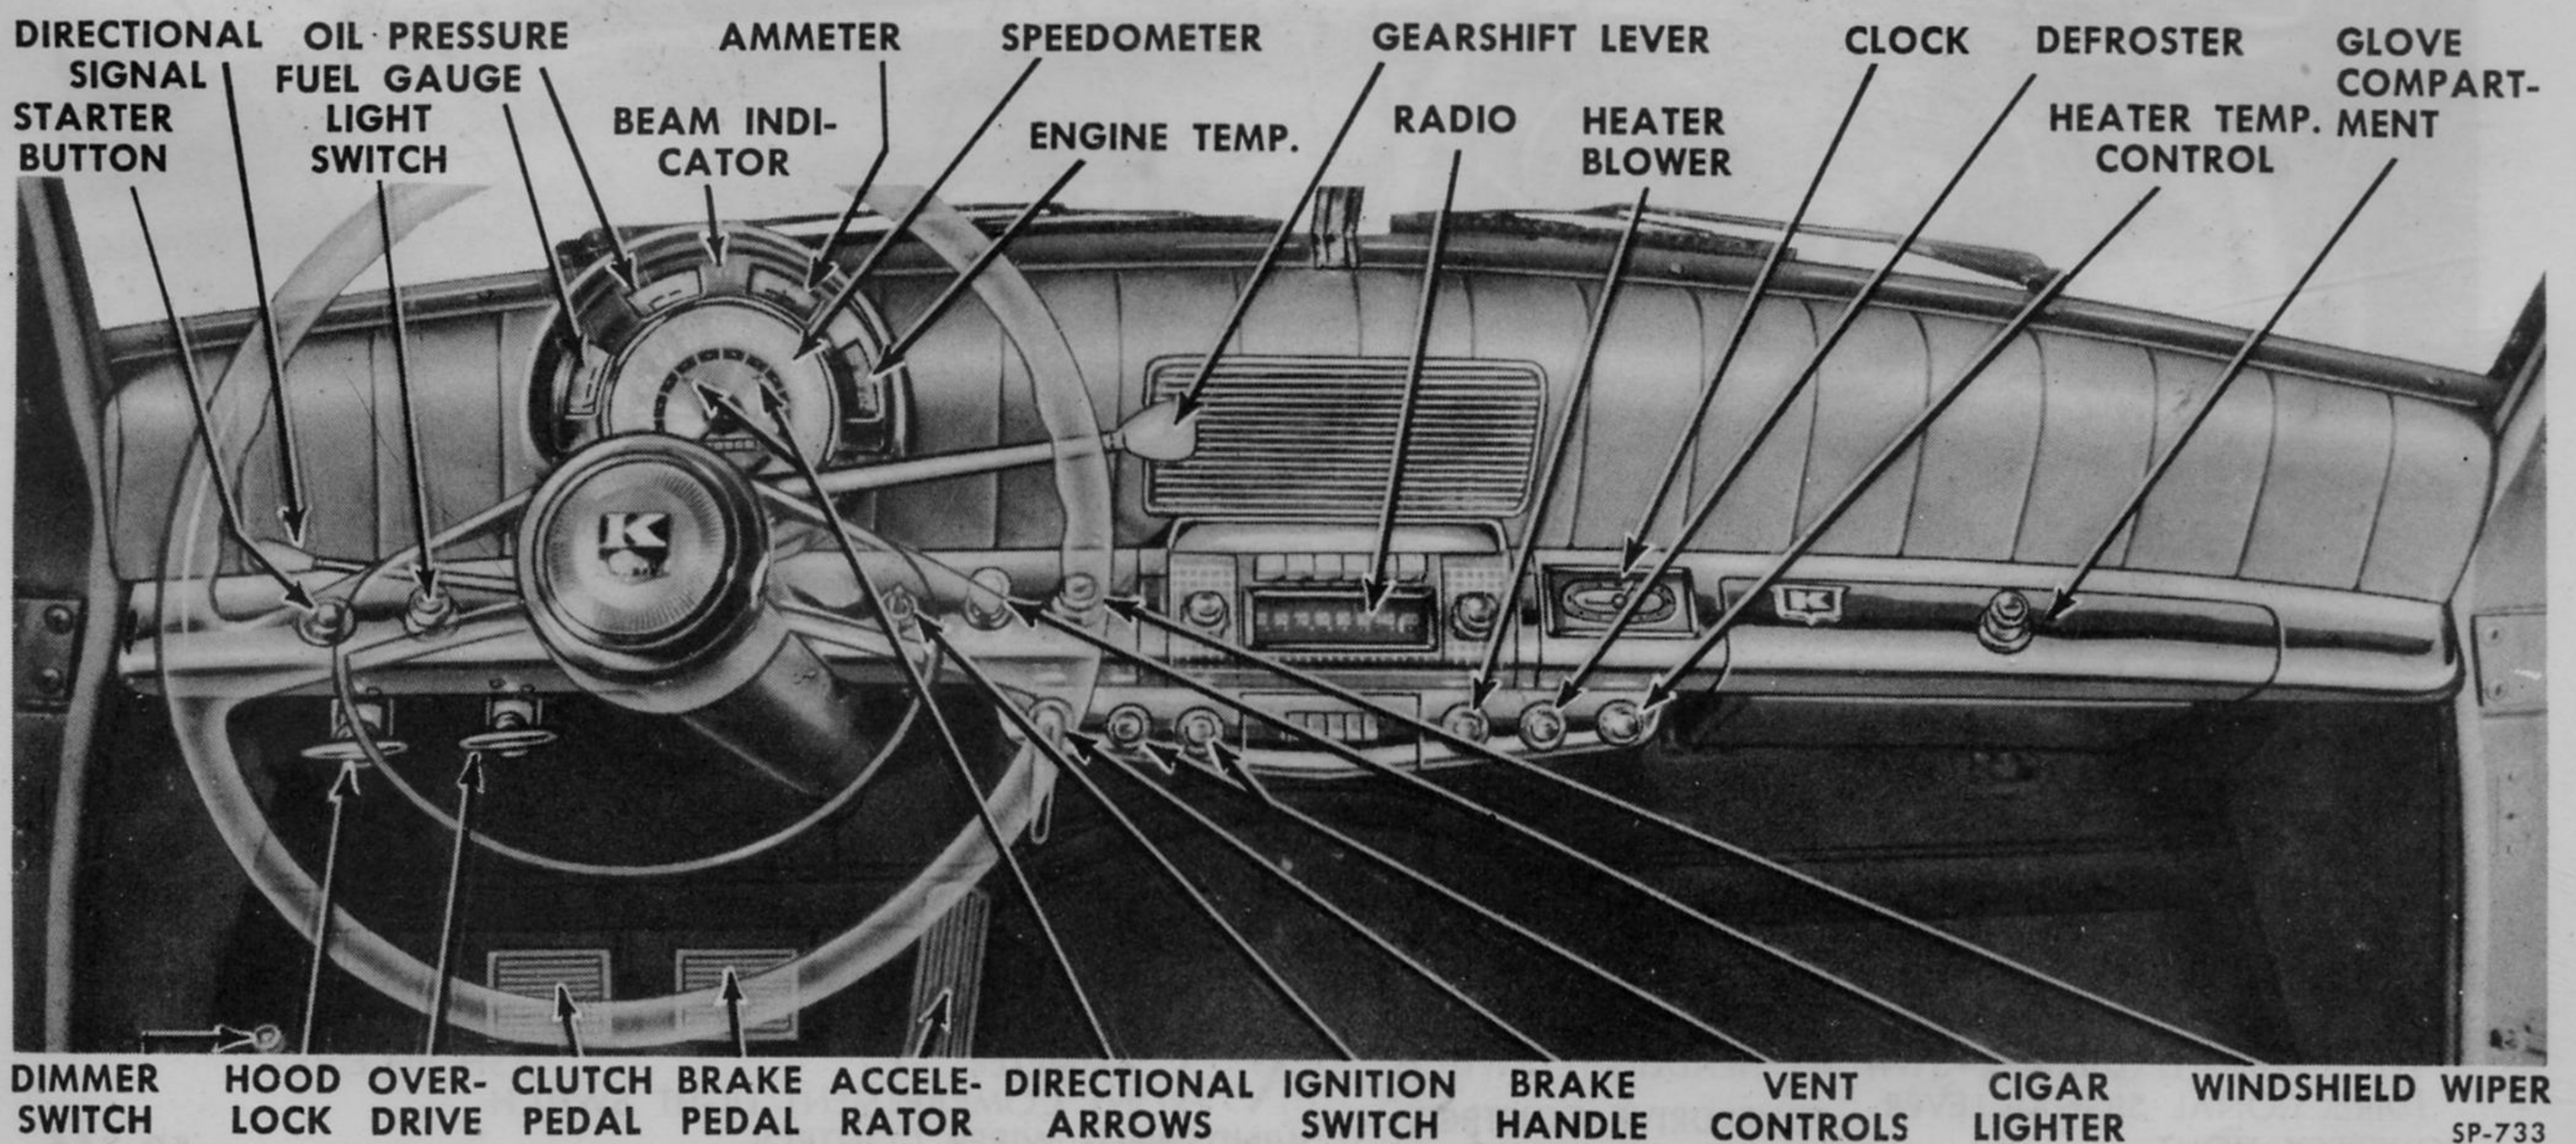

Fig. 442—Kaiser Instruments and Controls
a. KAISER INSTRUMENTS (Fig. 442). These are grouped in a hooded cluster under a single plastic lens and are mounted above the steering column in
c. CONTROLS. The various Kaiser and Frazer controls, together with the instruments, are illustrated in Figs. 442 and 443 and are described and illustrated in detail in the Owner's Manual applicable to the vehicle. Some of the accessories and controls shown are special equipment, or are dealer-installed.
a. VENTILATORS. Both the Kaiser and Frazer models are equipped with air ducts mounted along the right and left splash shields to conduct fresh air from immediately behind the radiator grille back to the front passenger compartment. Air flow through each duct is controlled by an individual valve. In the Kaiser models a separate vent control knob in the heater control panel (Fig. 442) is provided for each valve. In the Frazer models the upward or downward movement of a single lever controls both vent valves.
e. THERMOSTAT. An automatic thermostat valve in the Kaiser and in the Frazer heating systems regulates the flow of engine coolant through the heater core. Manual adjustment of this thermostat to assure the desired temperature is by a control button on the Kaiser and by a lever on the Frazer instrument panel (Figs. 442 and 443).